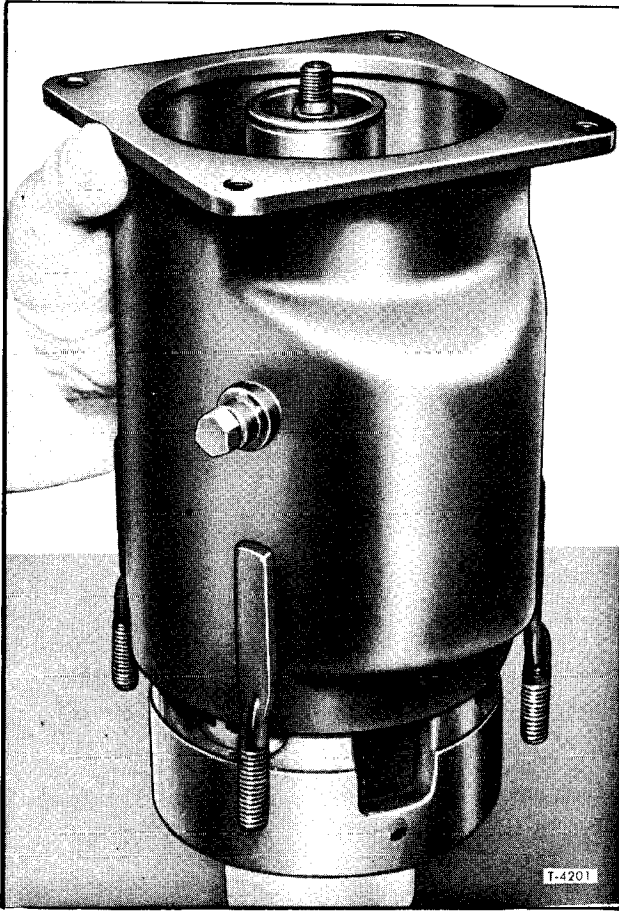

Figure 60—Installing Shell Over Internal Mechanism
10. Locate the oil intake tube in the rear discharge plate. Line up the oil sump with this hole location and slide the shell down over the mechanism while supporting the mechanism on support block (J-9521, figure 60).